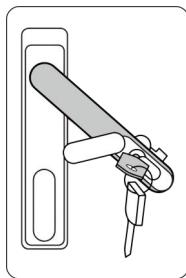

Figure.4
4. Turn the handle clockwise and pull out the door.See the Figure.4